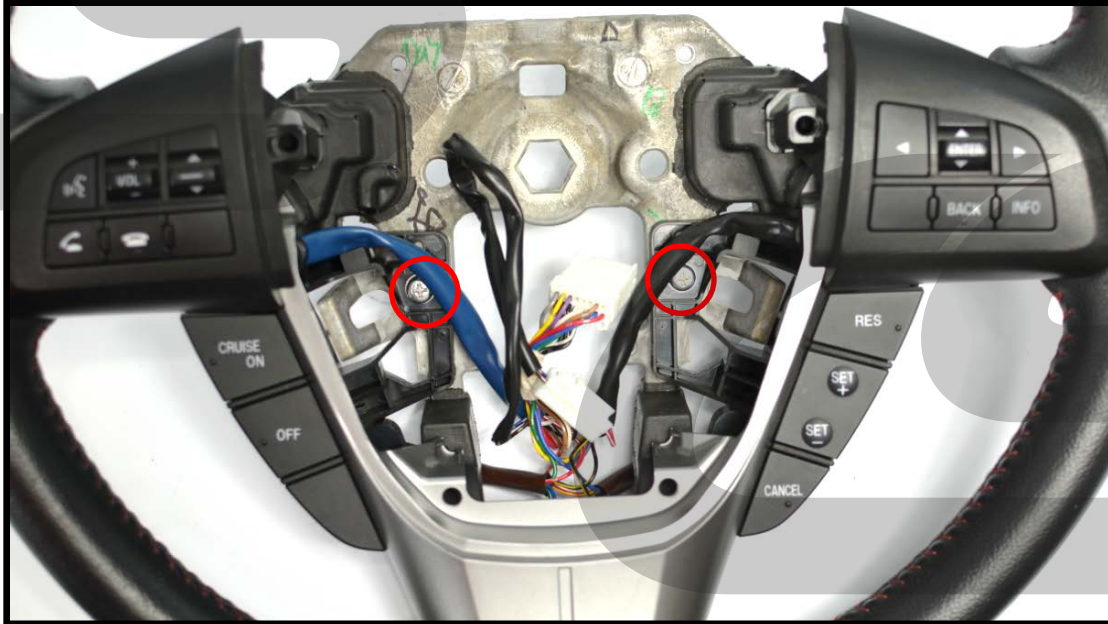

Figure 4a
- a) Remove the button clusters with the #2 Phillips screwdriver, shown with the red circles in Figure 4a.